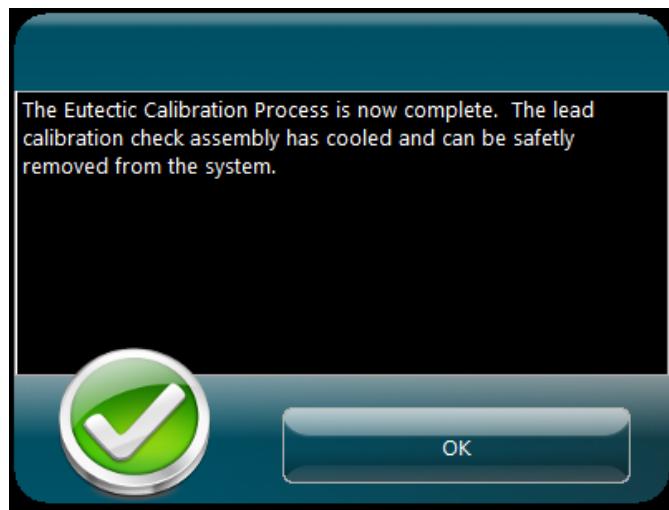

Figure 80 – Eutectic calibration complete pop-up
16. A seven (7) minute cooling timer will start to cool the lead calibration assembly. When timer has timed out, cooling will stop and a pop-up notification (figure 80) will appear notifying the operator that the calibration sequence has completed.